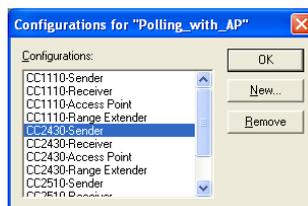

Figure 5. Remove Configuration
- Remove all configurations that are not for the CC1110 or CC2510. The configurations are removed by selecting them and pressing the **Remove** button, as shown in Figure 5.